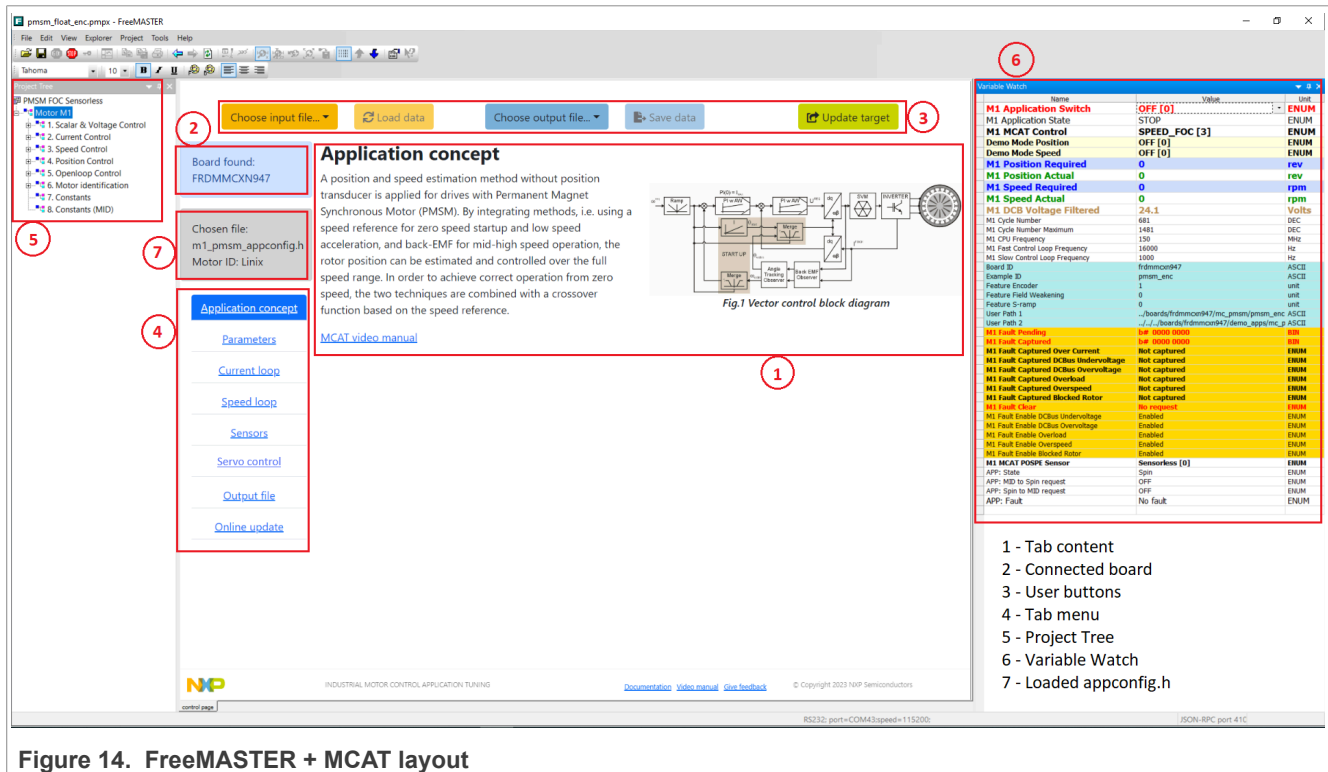

Figure 14. FreeMASTER + MCAT layout
within the FreeMASTER. The tool consists of the tab menu and workspace as shown in Figure 14. Each tab from the tab menu (4) represents one submodule which enables tuning or controlling different application aspects. Besides the MCAT page for PMSM, several scopes, recorders, and variables in the project tree (5) are predefined in the FreeMASTER project file to further the motor parameter tuning and debugging simplify.